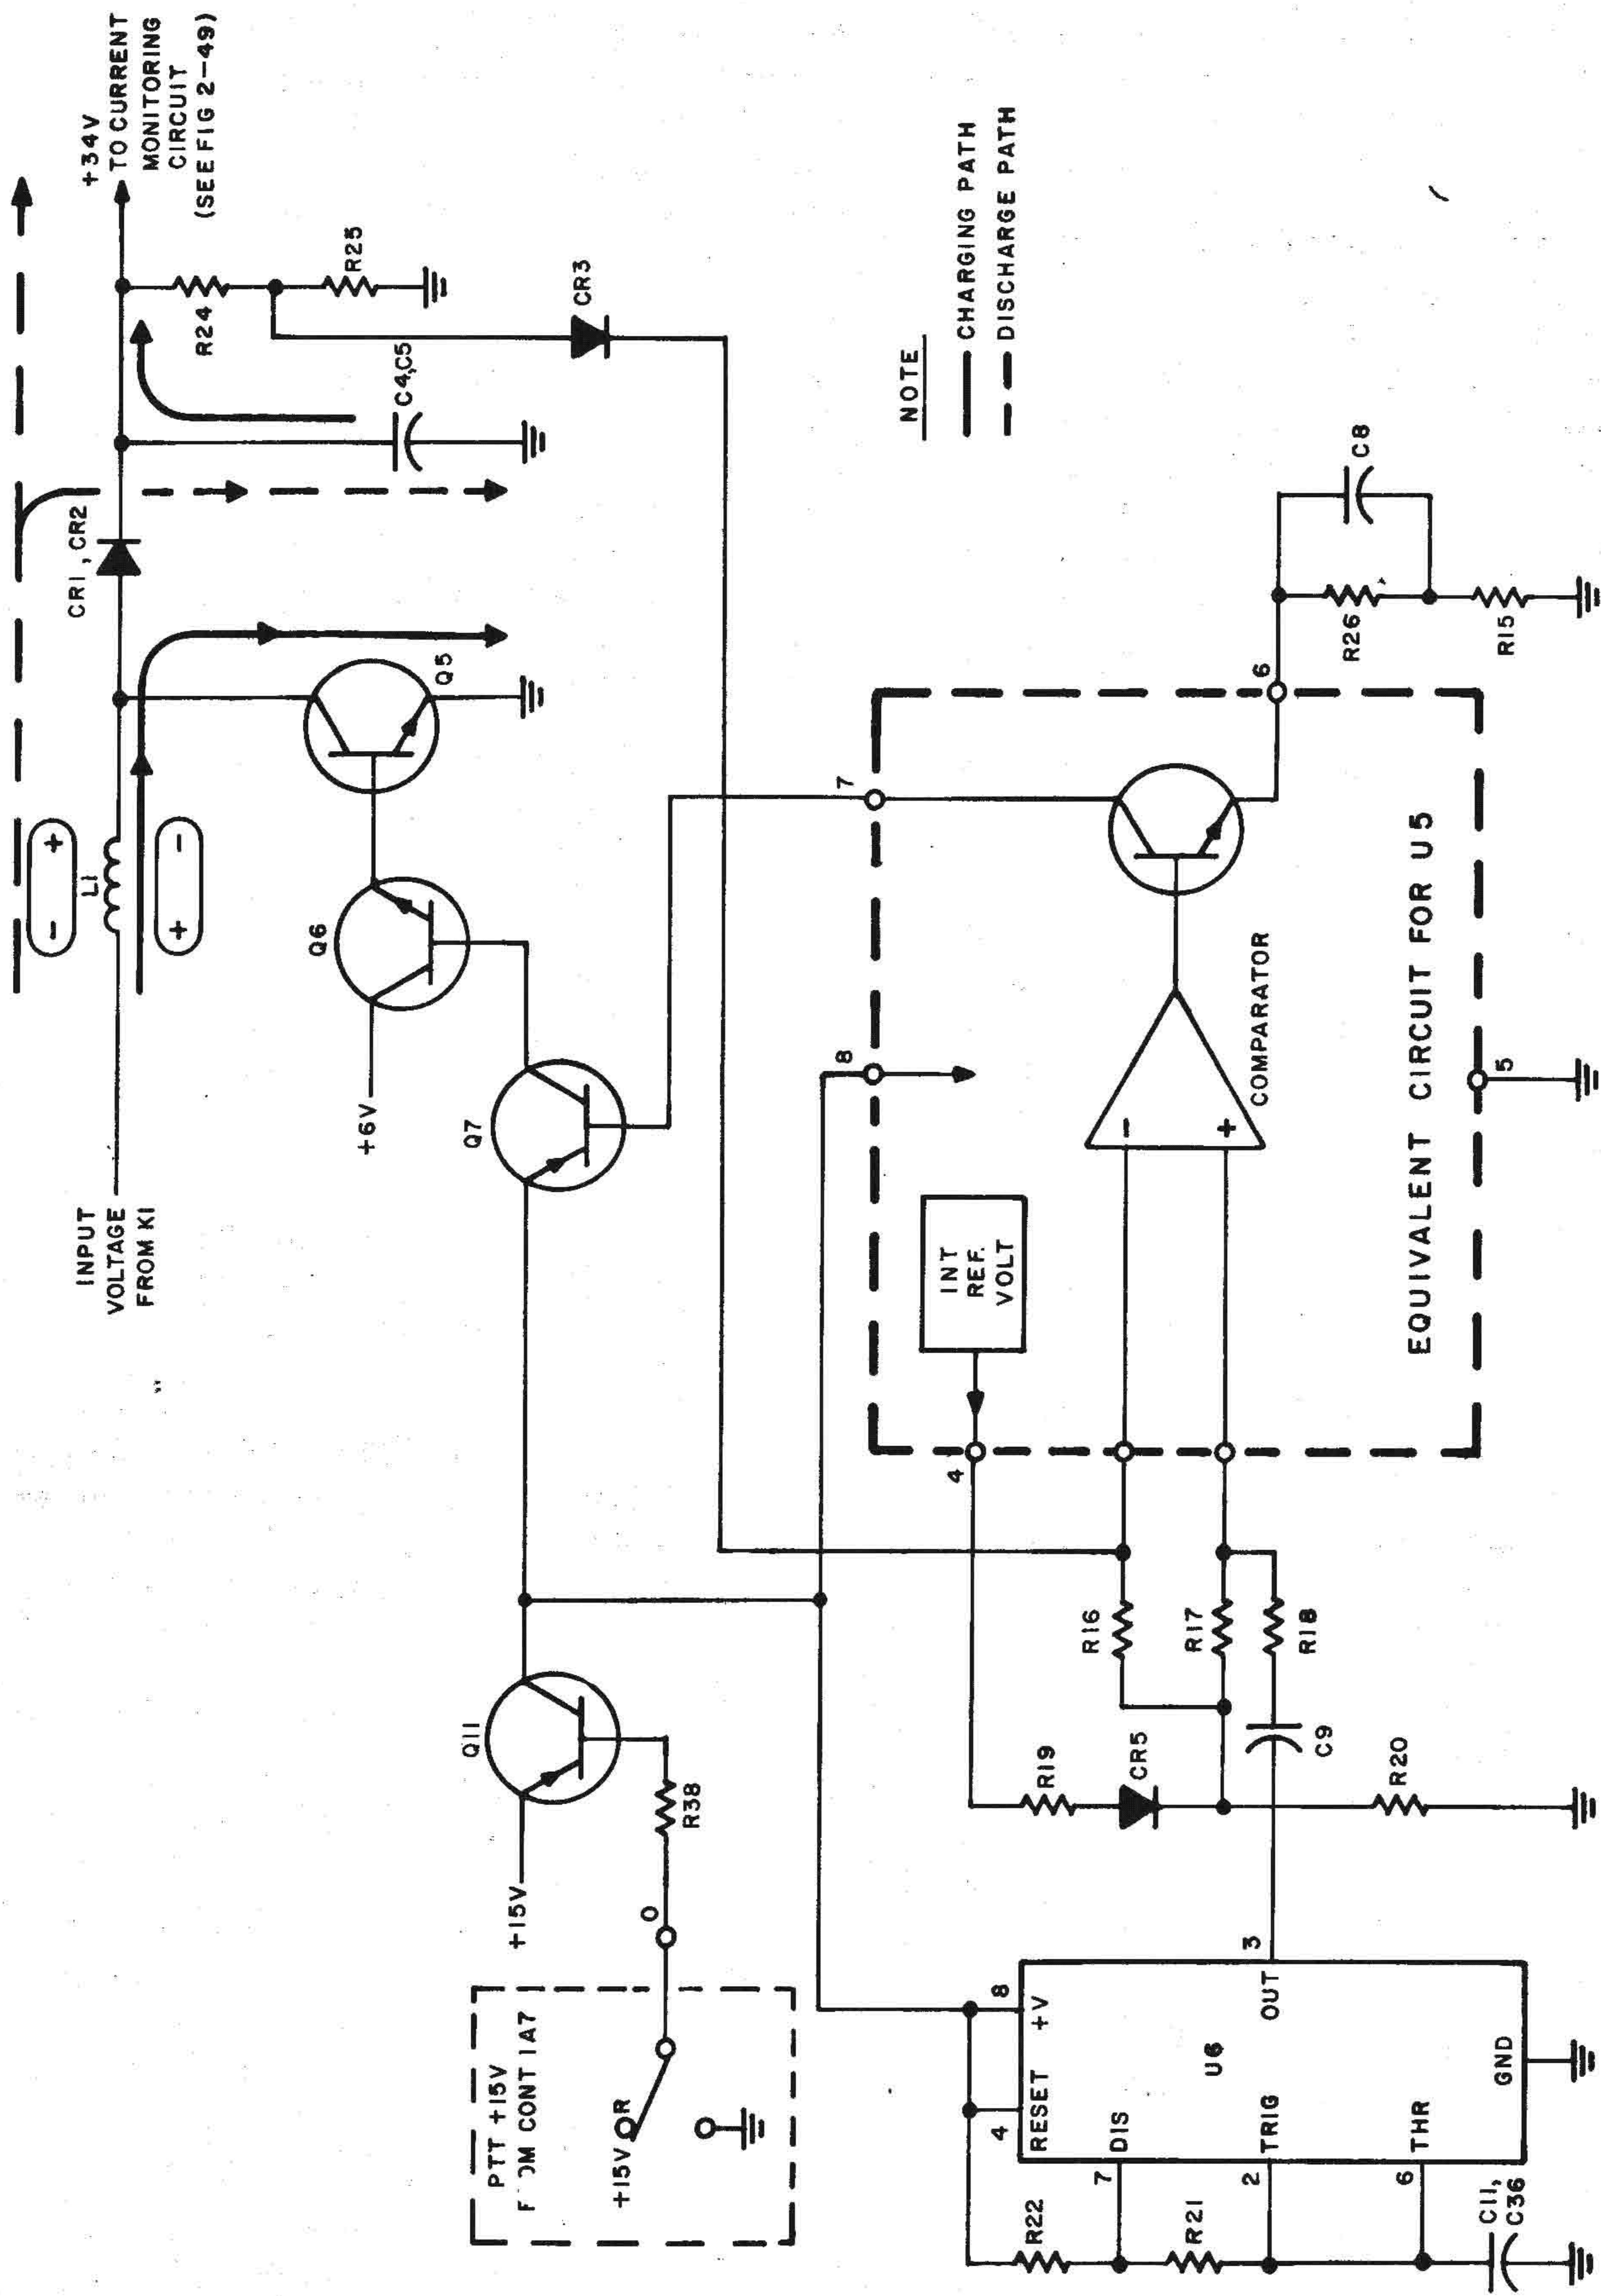

Fig. 2-48. +34V regulator, simplified circuit diagram
(6) +34V regulator (fig. 2-48). The +34V regulator is a switching regulator, comprises of U6, U5, Q5, Q6, and Q7, which supplies power to the final stage of PA 1A6.